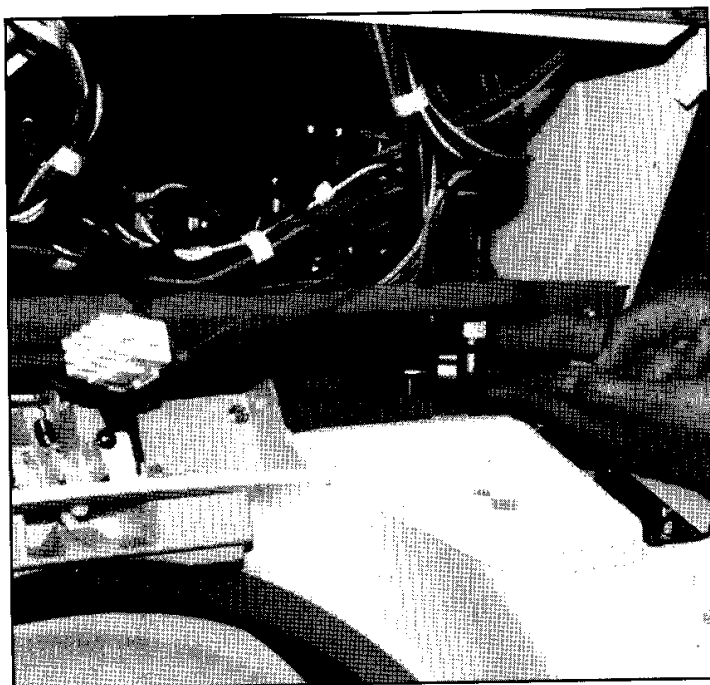
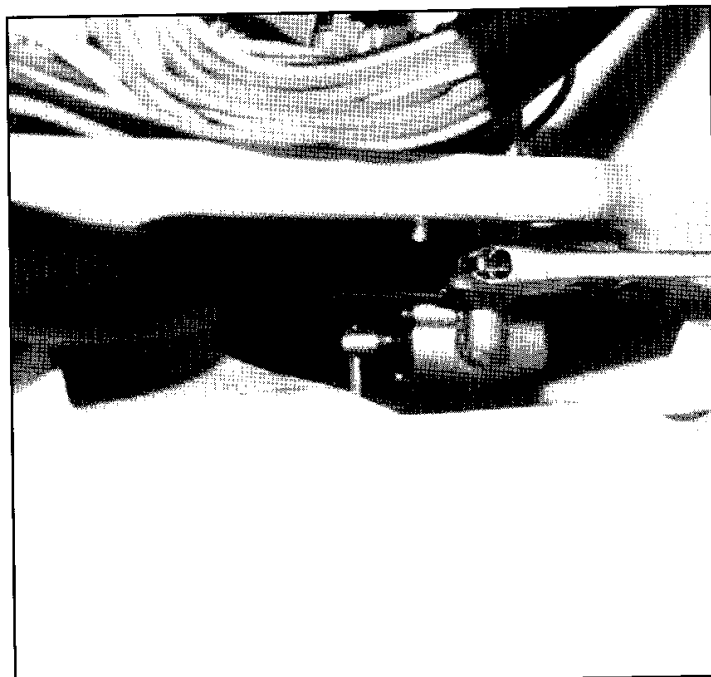

Figure 40
Figure 41
- 17.** Raise gas pipe with shut off valve up and secure to gas valve union. (See figure 40.) Tighten fitting with a crescent wrench being careful not to over tighten. (See figure 41.)